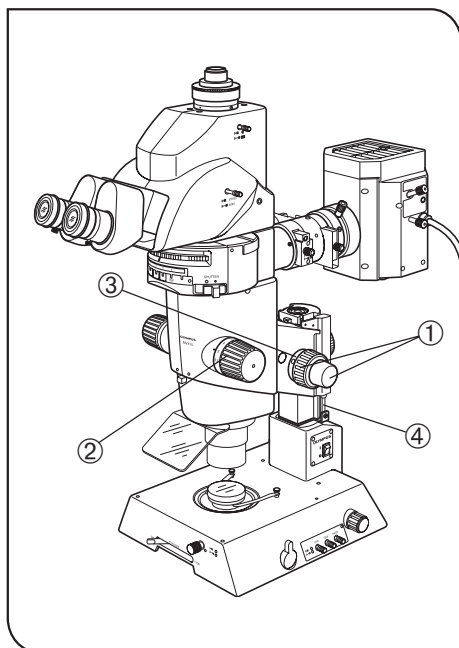

Fig. 2
| Focusing  | Coarse focus adjustment knobs ① (Fig. 2) | 1. If the knob hits the upper or lower limiting mechanism violently or it is rotated after it hits a limiting mechanism, the internal mechanism may be damaged.  |
| Zooming   | Zooming knobs ② (Fig. 2)                 | 1. If the knob hits the upper or lower limiting mechanism violently or it is rotated after it has hit a limiting mechanism, the internal mechanism may be damaged.   |
6. When disposing of the microscope. Check the regulations and rules of your local government and be sure to observe them. To dispose of only the gas spring (④, Fig. 2) used in the counterbalance of the focusing assembly, follow the precautions provided with the gas spring.